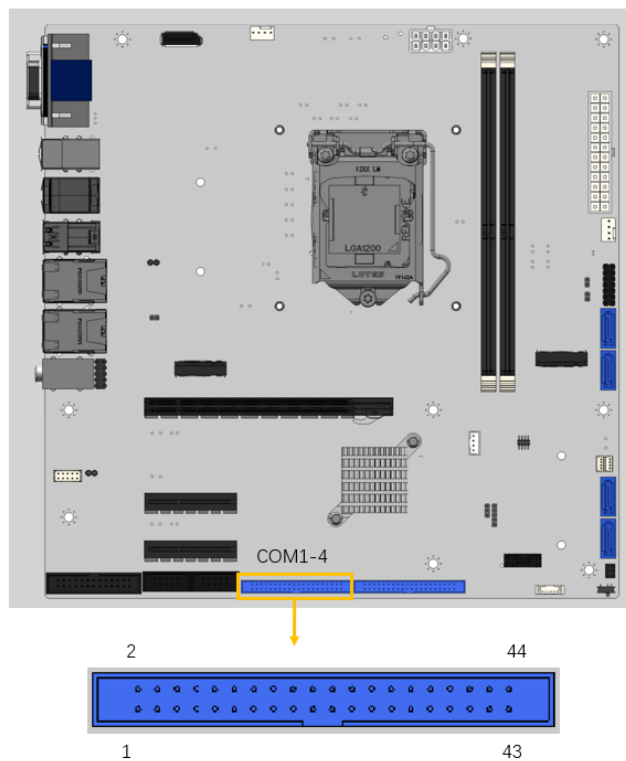

Figure 3-29: RS-232 Connector Locations
- CN Location:** See Figure 3-29